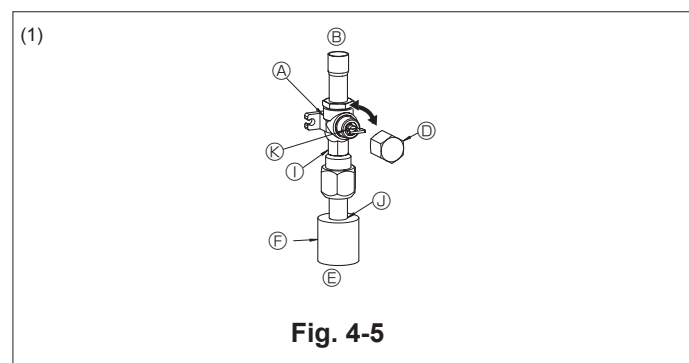

Fig. 4-5
- Gas side of A24-A42 (Fig. 4-5)